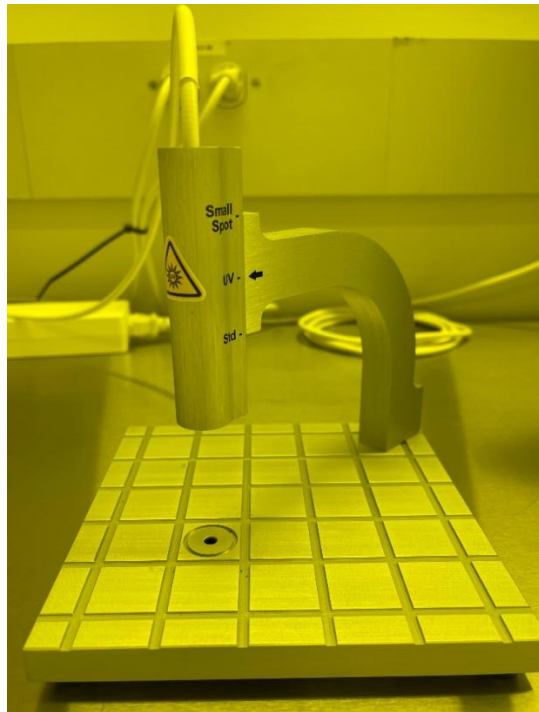

Figure 6. F20-UVX Fiber Optic Detector and the Empty Sample stage
- The sample stage is shown in Figure 6. Place a bare Si wafer under the F20-UVX fiber optic detector on the sample stage.